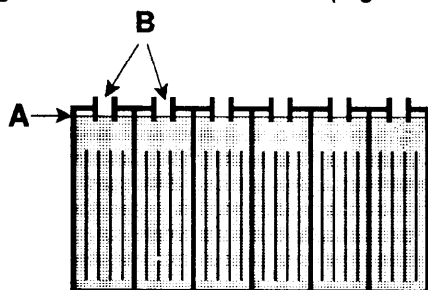

FIG. 36.
2. Each week *after* charging, check water level (A) in each battery cell of all batteries. Water level should reach bottom of sight tubes (B). If needed, add just enough distilled water to reach bottom of sight tubes. DO NOT overfill. (Figure 36)